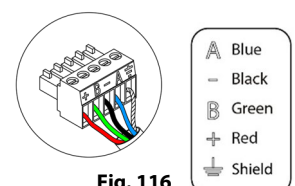

Fig. 116
It has a 5-pin terminal to connect it to the domotic bus of the main board ③. Attach the wires with the terminal screws following the color code (Fig. 116).